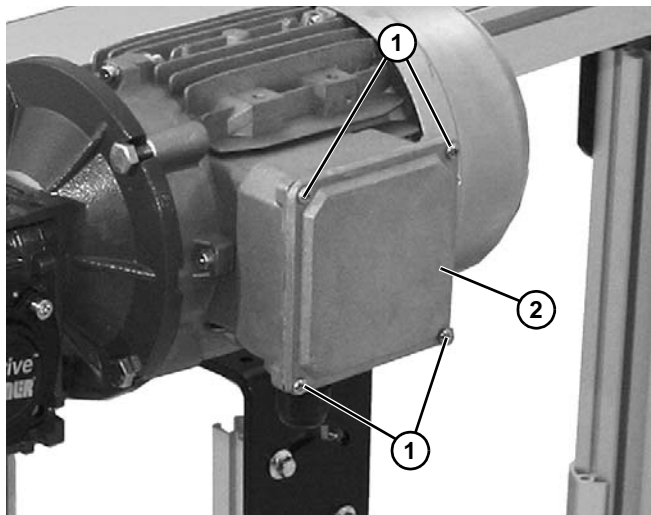

Figure 18
1. Loosen terminal box screws (Figure 18, item 1) and remove cover (Figure 18, item 2).